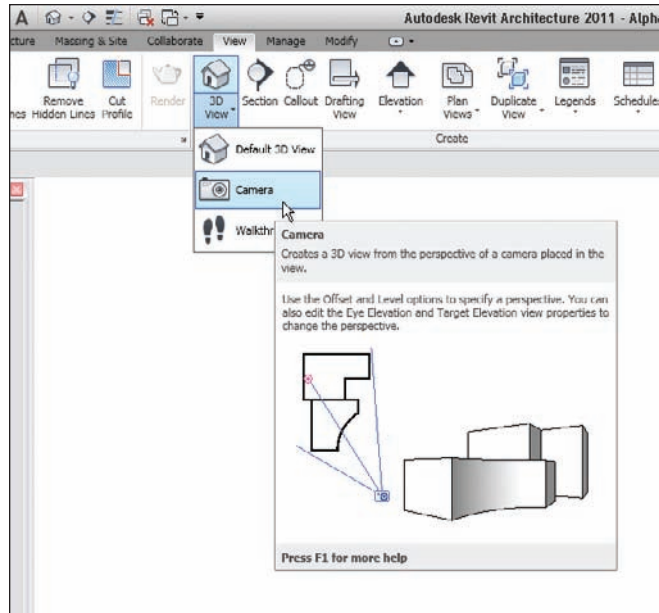

FIGURE 3.67 Adding a camera view
2. On the View tab, click the drop-down arrow in the 3D View button and select Camera, as shown in Figure 3.67.